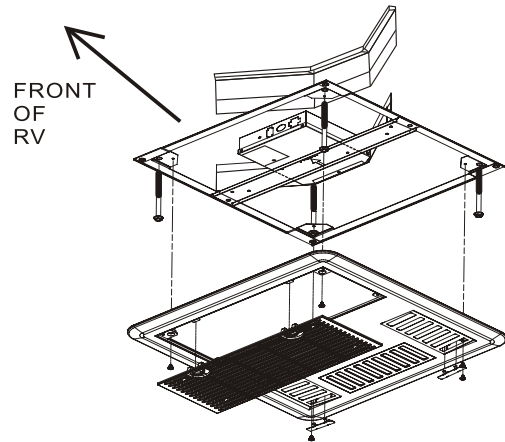

FIG. 6
3. Position the mount frame into the ceiling opening. See Figure 6.
7. Connect 115VAC and 12VDC wires, Freeze Sensor Thermistor, Heat Pump specific (Outdoor Coil Thermistor, Outdoor Ambient Thermistor), and thermostat cable according to the wiring diagram. Install the cover over the electrical box using the small screw provided as shown in Figure 6.